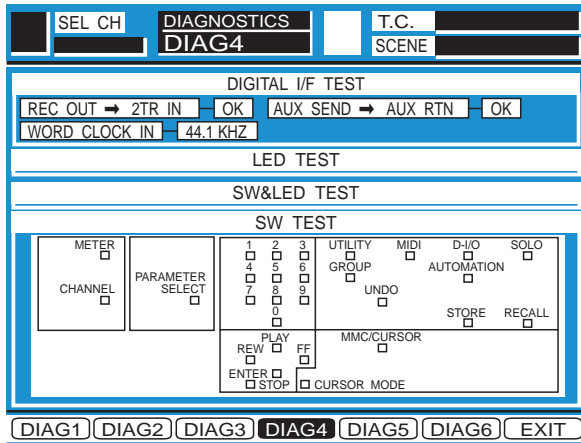

Fig. 5-4
- Press the Enter Key, the Diagnostic Menu 4 as shown in Fig. 5-4 is displayed.
- Referring to Fig. 5-4, a presence Master Word Clock Frequency and Lock/Unlock Status will be displayed.
- Referring to Fig. 5-4, select the LED TEST Item by either UP or DOWN Cursor.
- Referring to Fig. 5-4, select the SW&LED TEST Item by either UP or DOWN Cursor.
- Referring to Fig. 5-4, select the SW TEST Item by either UP or DOWN Cursor.